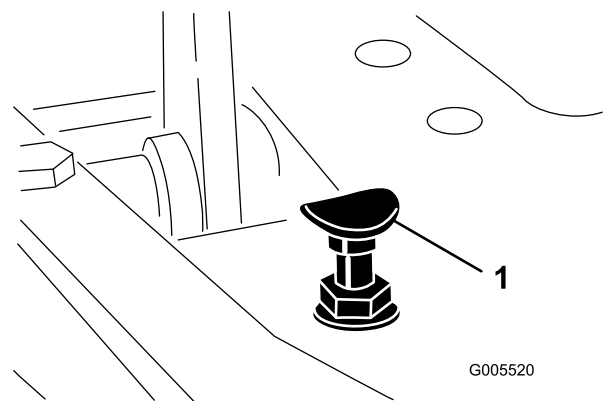

Figure 56
To obtain maximum transport speed, put the functional control lever in the transport position and press down on the traction pedal. If the pedal contacts the stop (Figure 56) before tension is felt on the cable, an adjustment is required:
1. Put the functional control lever in the transport position and loosen the locknut securing the pedal stop to the floor plate (Figure 56).